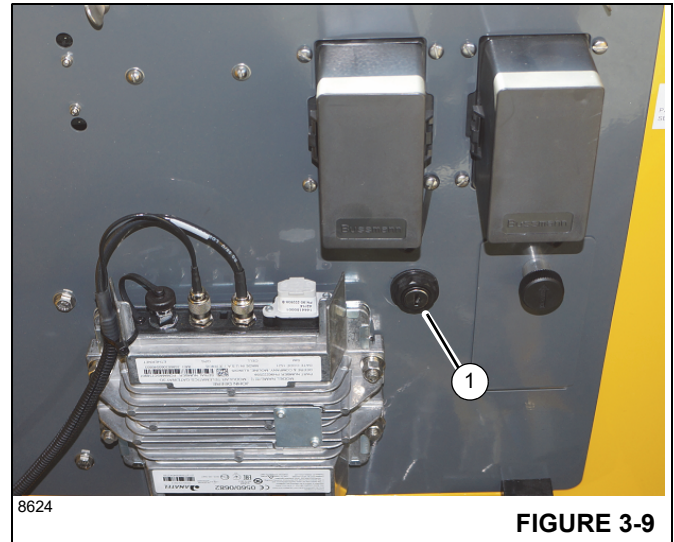

FIGURE 3-9
The fuse panel (1) Figure 3-9 is located behind the cab seat on the cab fuse and relay panel assembly. It contains up to 20 fuses that protect various electrical components.
The Limit Bypass Switch (1) (Figure 3-9) is a two-position, maintained type key switch. In an emergency situation only, turn switch clockwise to bypass the following limiter systems and their craning function lockouts: